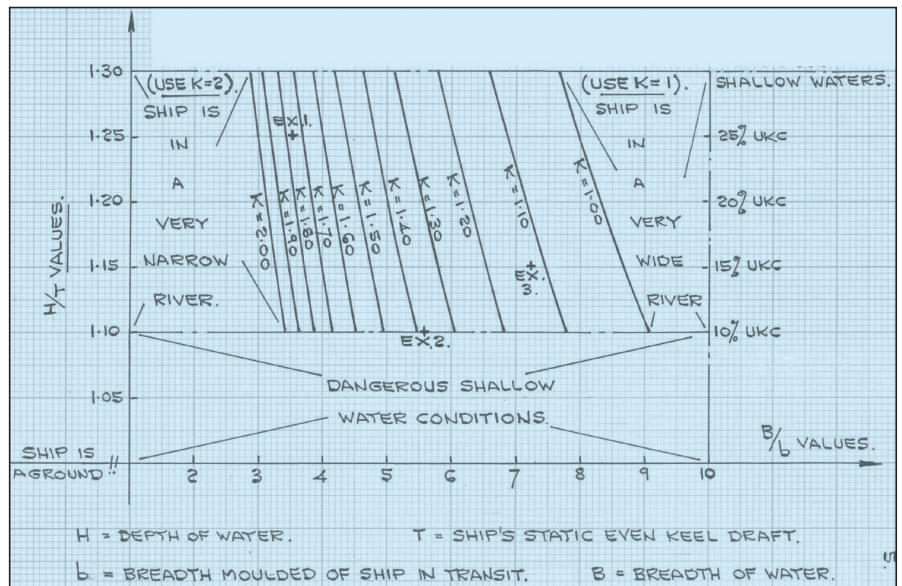

Fig 1. 'K' co-efficients for rectangular-section rivers.
To predict maximum ship squat in river conditions, the author has produced a diagram that involves 'K' coefficients (Fig 1). For this study, the value of 'K' will range only from 1.0 to 2.0. If 'K' < 1 on the diagram, then use 'K' = 1. If 'K' > 2 on the diagram, then use 'K' = 2. The parameters associated with this diagram are H/T and B/b.
Procedure for using Fig 1
3. enter Fig 1, and plot the intersection point of H/T with B/b. See the results for the three worked examples below
Using Fig 1, at the point of intersection of 1.25 and 3.55, the 'K' value lifted off is 1.752, so maximum squat